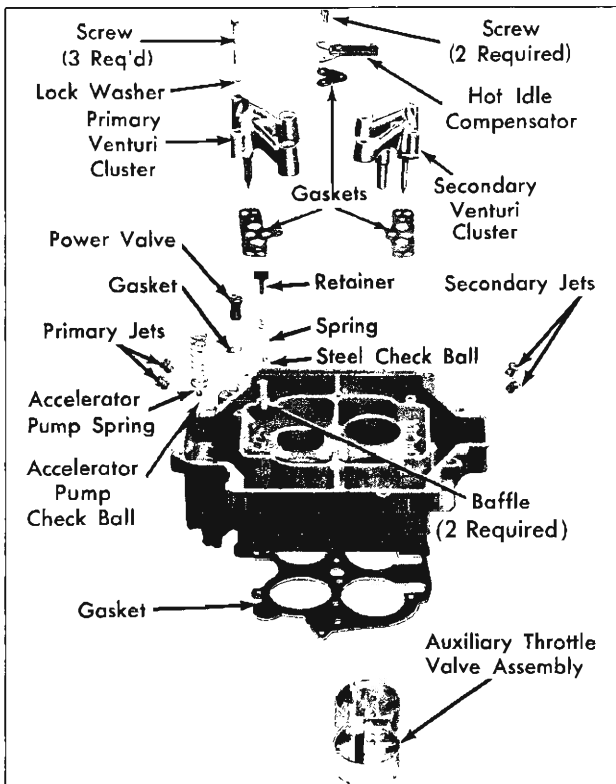

Fig. 59—Bowl Assembly—Exploded View
2. Install auxiliary valve assembly in bowl with spring cavity opening facing down, Figure 59.